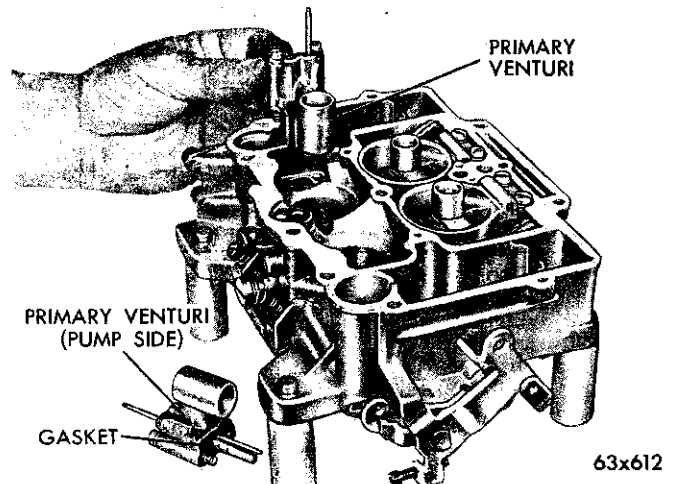

Fig. 8—Removing the Primary Venturi
(3) Remove the screws that attach the primary venturi to the main body. (These venturi are not interchangeable side for side, and it is suggested that the pump side venturi be marked for identification). Remove the venturi, as shown in Figure 8. Discard the gaskets. (The pump side venturi is numbered 687. The opposite one, numbered 686.)
(4) Remove the screws that attach the secondary
(8) Place new primary venturi gaskets in position, then install the primary venturi. (Refer to Fig. 8.) Install screws and tighten securely. Be sure each is located in its original place.